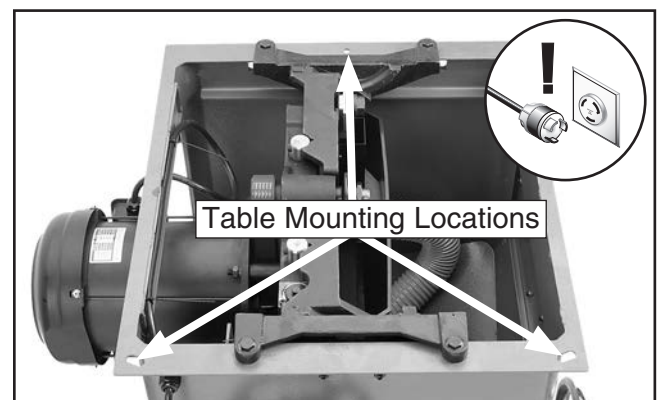

Figure 128. Table mounting bolt holes (table top removed for clarity).
7. To adjust the table, loosen the three bolts in the table mounting locations (see **Figure 128**) and lightly tap the table in the direction needed to square the table to the blade. Repeat **Steps 2–6** until the blade and miter slot are parallel. Do not forget to tighten the table mounting bolts when finished.
2. Loosen the three table mounting bolts (**Page 66, Figure 128**) and adjust the table until the blade does not contact the insert. Tighten all the mounting bolts.